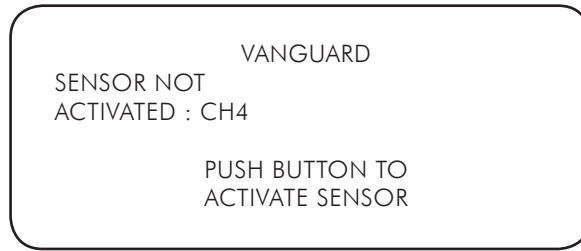

Figure 7
- When hardware and software boot-up is complete, the device will prompt user to activate the installed sensor (see Figure 7)